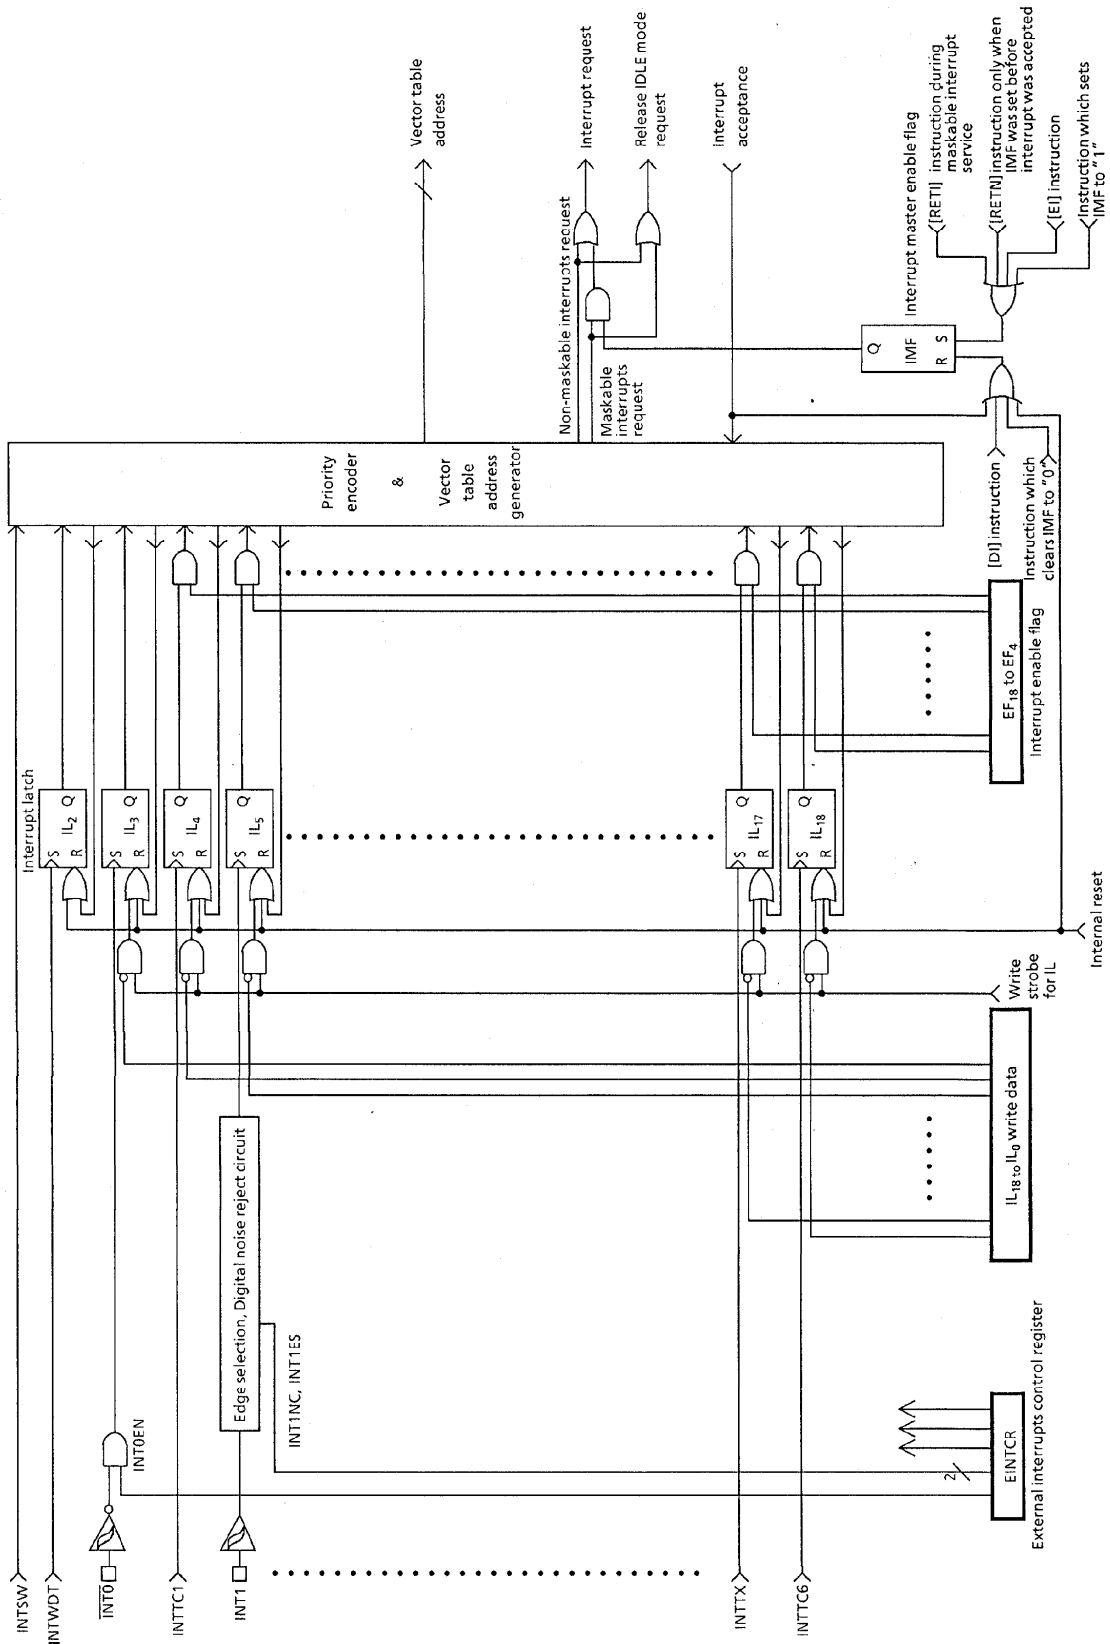

Figure 1-26. Interrupt Controller Block Diagram
The interrupt latch is set to "1" when an interrupt request is generated and requests the CPU to accept the interrupt. The acceptance of maskable interrupts can be selectively enabled and disabled by program using the interrupt master enable flag (IMF) and the individual interrupt enable flags (EF). When two or more interrupts are generated simultaneously, the interrupt is accepted in the highest priority order as determined by the hardware. Figure 1-26 shows the interrupt controller.